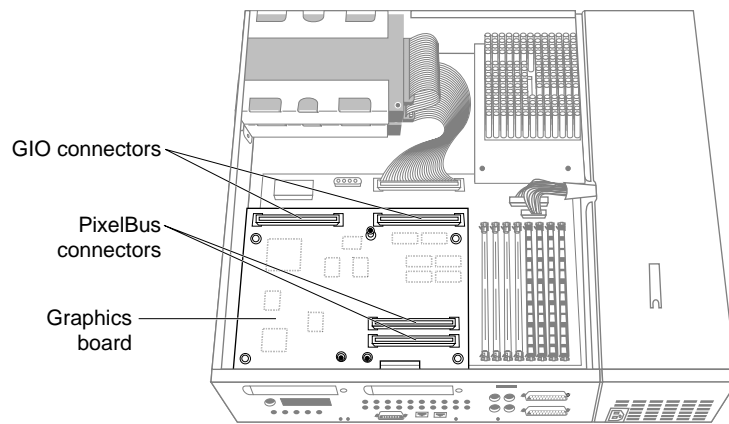

Figure 4-3 Locating the connectors on the graphics board
1. Move the system or position yourself so that you are facing the back of the system, as shown in Figure 4-3.
The graphics board has four connectors, as shown in Figure 4-3.
Note: If another option board is occupying this space, remove it and insert it into the other slot. The Indy Video board must occupy the expansion slot closest to the SIMM sockets. This slot has two pixel bus connectors, as shown in Figure 4-3.